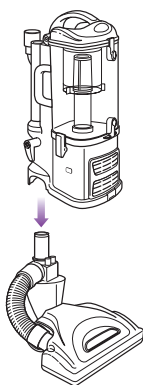

Fig. 8
- 2 Align the tube of the floor nozzle with the tube on the portable *Lift-Away*® canister and lower until you hear the two pieces click into place. **(Fig. 8)**